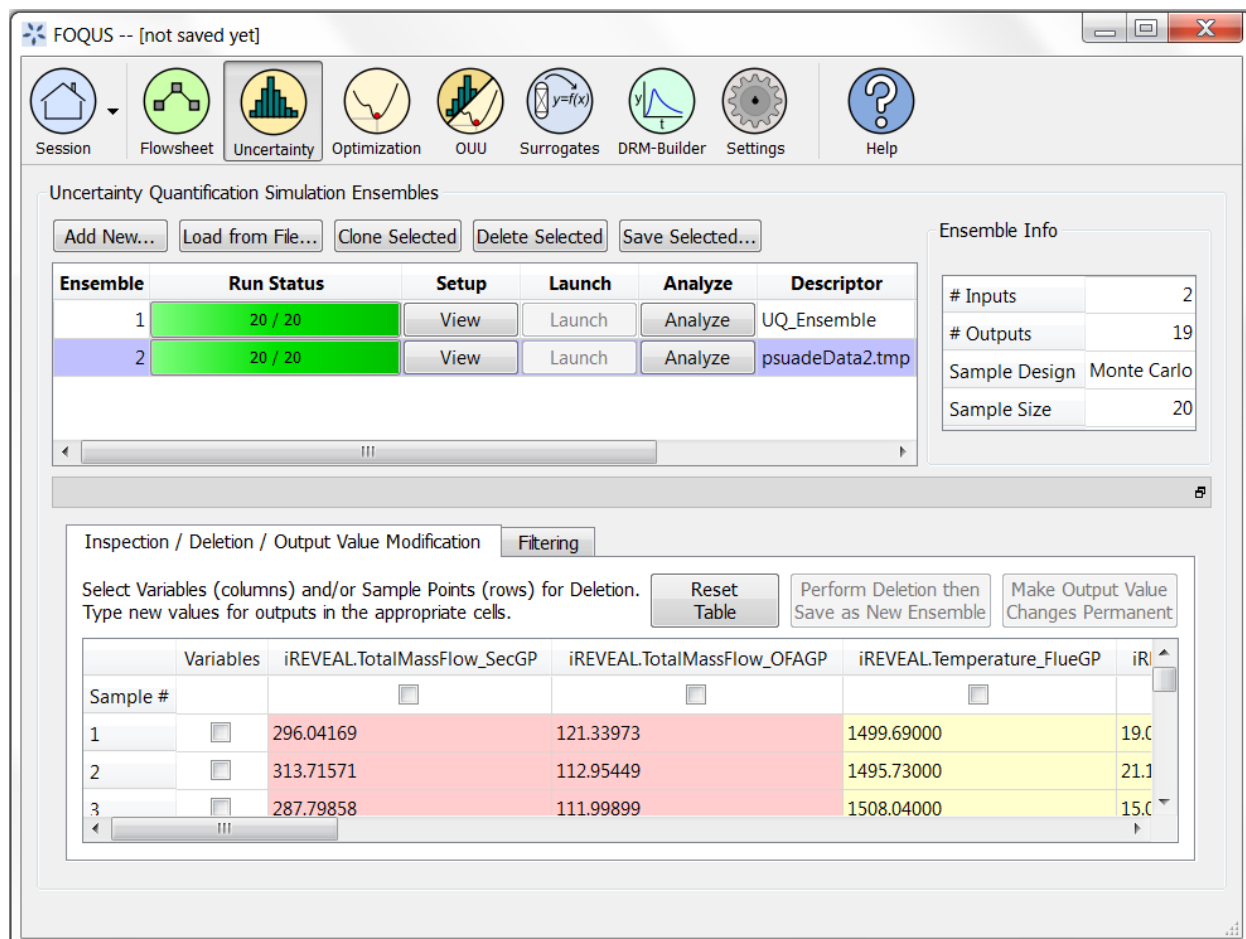

Figure 13: Visualize Response Surface: Select New Ensemble
6. Select the newly created ensemble and then click “Analyze” on the new ensemble (ensemble 2, with descriptor = psuadeData2.tmp) as shown in Figure 13. The “Analysis of Ensemble” dialog window displays.